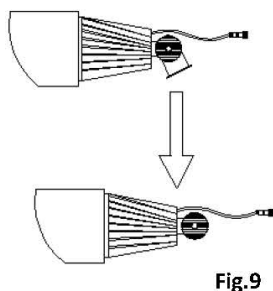

Fig.9
- Take off the adjustable arm part of LED lamp. Remove and save the machine fine threaded screw for future use. (Fig.9)